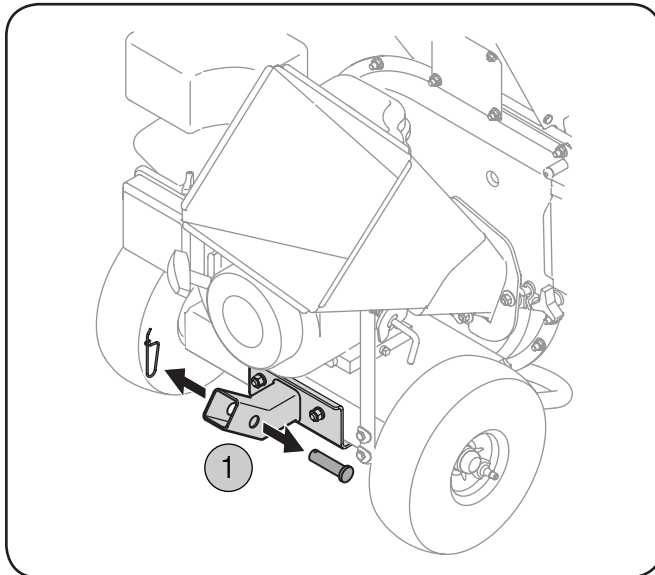

Figure 3-3
1. Remove the spring pin and clevis pin from the end of the tow bar receiver. See Figure 3-3.